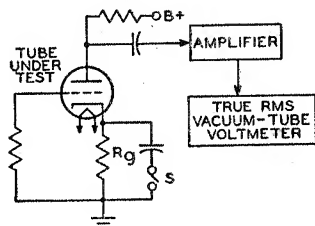

Fig. 127—Test circuit for measuring hum and noise characteristics of high-fidelity audio-amplifier tubes.
**Hum and noise** characteristics of high-fidelity audio amplifier tube types such as the 7025 and the 7199 are tested in an amplifier circuit such as that shown in Fig. 127. The output of the test circuit is fed into a low-noise amplifier. The bandwidth of this amplifier depends on the characteristic being measured. If hum alone is being tested, a relatively narrow bandwidth is used to include both the line frequency and